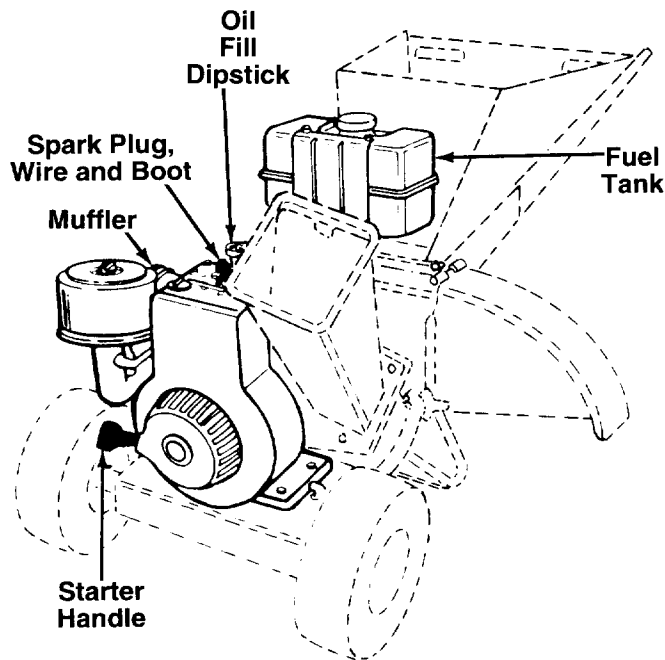

FIGURE 13.
- Attach spark plug wire and rubber boot to spark plug if necessary. See figure 13.
- Grasp starter handle (see figure 13) and pull rope out slowly until engine reaches start of compression cycle (rope will pull slightly harder at this point). Let the rope rewind slowly.